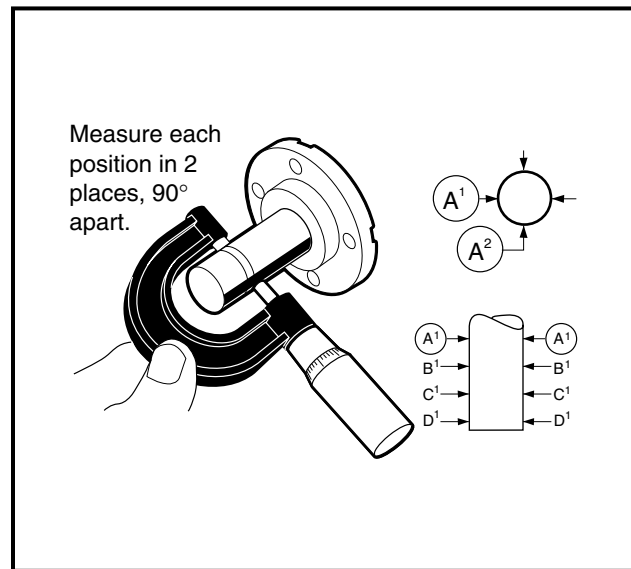

Figure 3-74 Measure O.D. of Counterbalance Guide Shaft
2. Use an outside micrometer to measure the outside diameter of the guide shaft surface (**Figure 3-74, Page 3-35**).